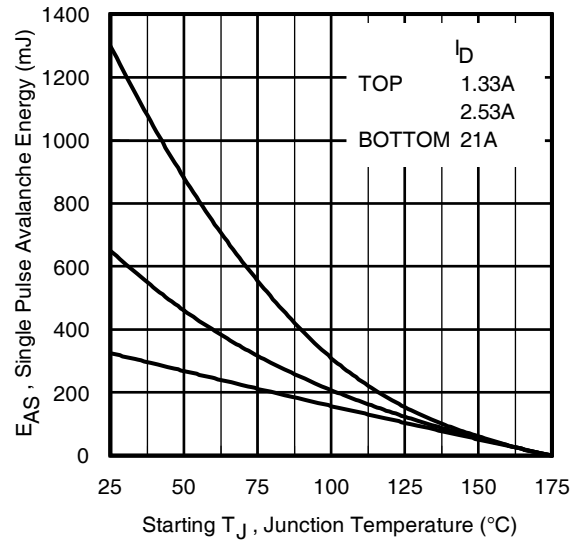

Fig 14. Maximum Avalanche Energy vs. Temperature
**Notes on Repetitive Avalanche Curves , Figures 14, 17: